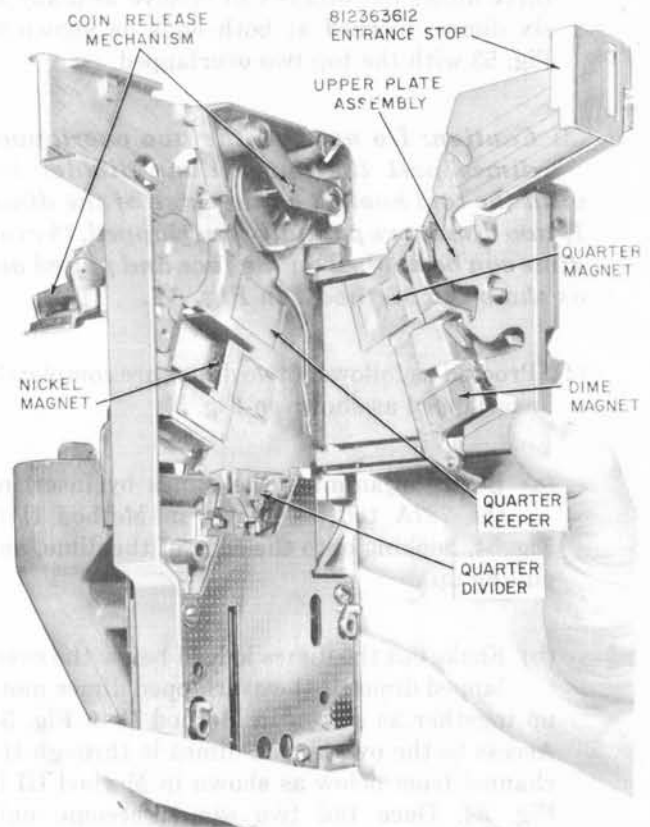
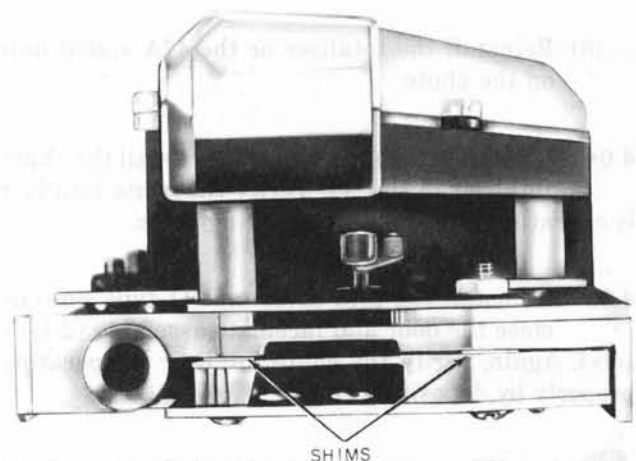

Fig. 50—Chute
Fig. 51—20A Coin Chute (Manufactured Prior to May 1978) With Dime Opening Shimmed
- (1) Remove the coin cover unit (1-type) or open the door and faceplate assembly (2-type).
- (2) Remove the chute totalizer or the chute signal unit.
- (3) Swing the upper plate assembly open as shown in Fig. 50.
- (4) Use an orange stick where possible to remove any foreign objects or stuck coins. Do not use a screwdriver.
- (5) Do not loosen the chute assembly screw.
- (6) **Caution:** Exercise extreme care when closing the upper plate assembly. If the quarter divider is not positioned properly, it can become damaged when the upper plate assembly is closed against it. Clean off any foreign material adhering to the chute magnets using a suitable typewriter brush or equivalent.
- (7) Replace the 20A coin chute if the dime is caught at the exit of the lower portion of the chute (manufactured prior to May 1978) and if the chute does not have shims to increase the dime exit opening as shown in Fig. 51.